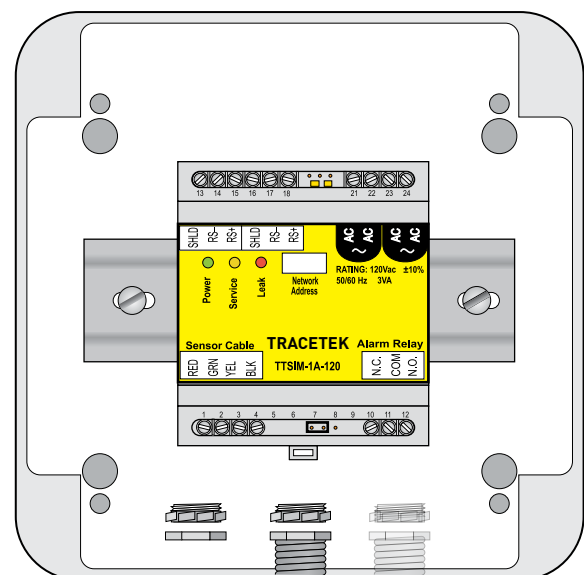

Figure 2. NEMA 4X enclosure
Mounting the TTSIM-1A module in the optional NEMA 4X Enclosure – Figure 2
- A typical outdoor or harsh environment installation will require three holes in the TTSIM-ENC: one for inbound power and telemetry, one for outbound power and telemetry and one for the sensor cable leader. See Figure 2.